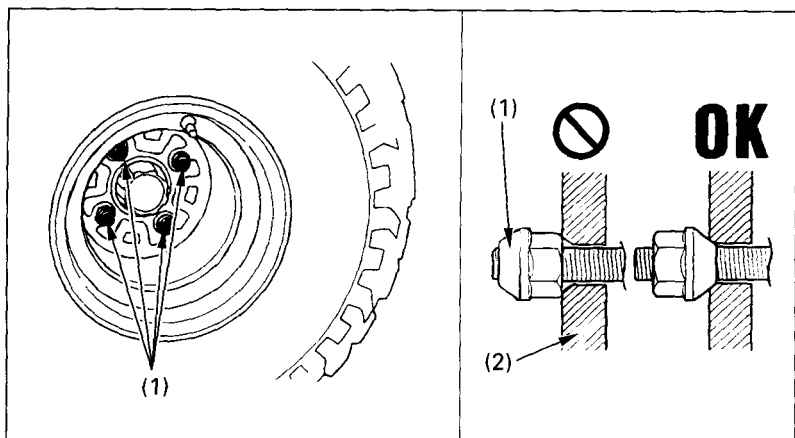

Fig. 4-33 (1) Wheel nuts
2. Loosen the wheel nuts (Fig. 4-33) with a 17 mm socket wrench.